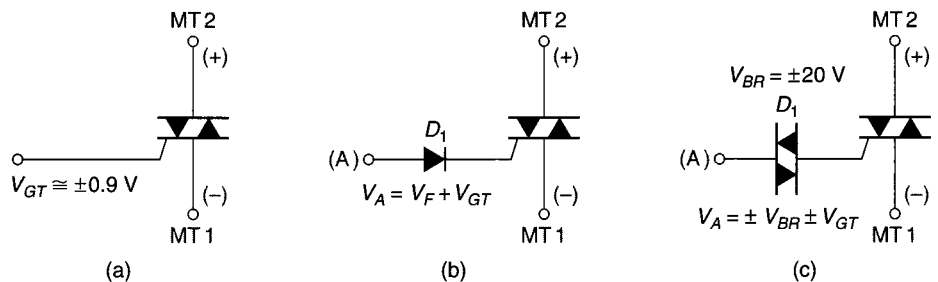

FIGURE 20.26 Controlling triac triggering.
11. Describe the operation of each of the trigger control circuits shown in Figure 20.26.